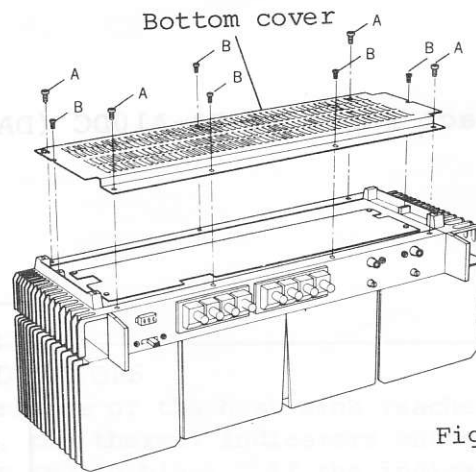

Fig. 1
### 1. Disassembling the Bottom Cover (Fig. 1)
- 1) Remove the screws attached to the bottom cover. (Refer to Fig. 1)